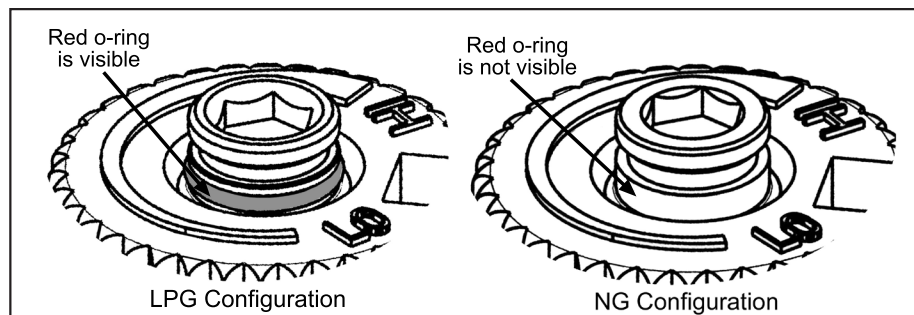

Figure 14: O-ring on valve screw.
- f) Verify that if the conversion is from NG to LPG, the screw must be re-assembled with the red o-ring visible (refer to Figure 14). If the conversion is from LPG to NG, the red o-ring of the screw must be not visible.